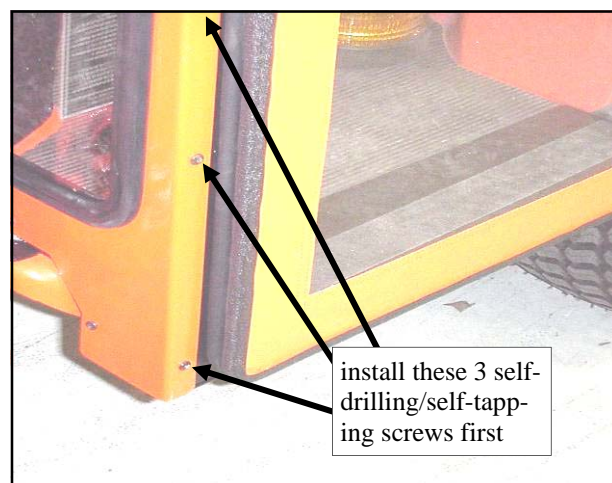

Fig. 16.2 (view from front of left side)
**16.2** Per fig. 16.2, install the left and right front fillers so that the lower front section is between the bolt heads and the frame front. Secure with six (6) self-drilling/self-tapping screws. Use a Phillips head bit in a drill. Install the three outer vertical screws first, then the three lower